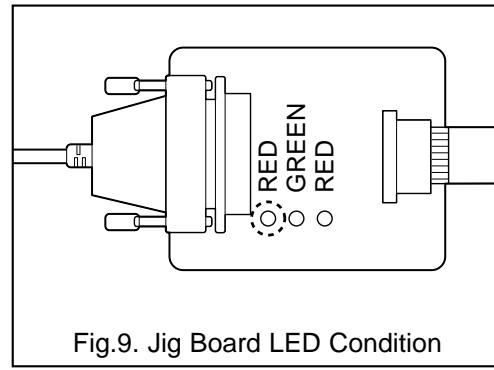

Fig.9. Jig Board LED Condition
7. Confirm No.1 LED(RED Color) of Jig board is ON. (Fig.9)